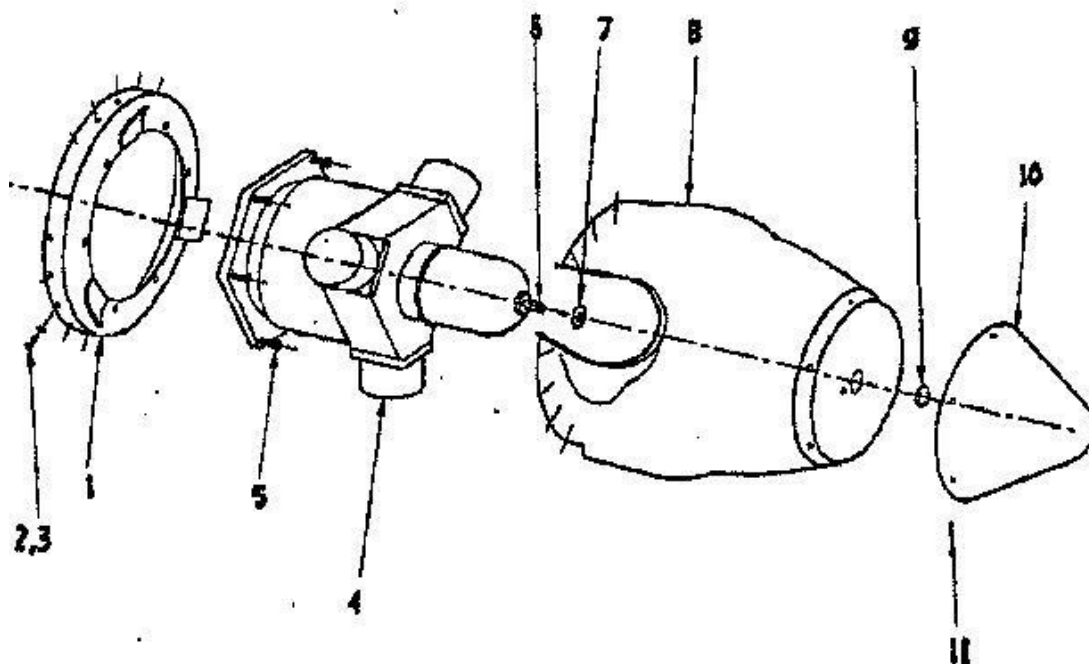

Figure 1. Bulkhead and spinner installation
Numbers in square parentheses [] refer to the identifying numbers in Figure 1, sheet 4.
d. If the airplane is equipped with a propeller deice system, disconnect electrical leads [not shown in Fig 1].
c. Lubricate and install PRP 909-6 O-ring [not shown in Fig. 1] in propeller shaft hole.
f. Install the TCB43933(see kit list for dash number) spinner assy [8] by first aligning the bulkhead [1] screw holes up and checking that the hole in the forward face of the spinner seats on the prop shaft flange. Use up to eight A169-7 spacers [7] to shim the gap between the spinner and the flange. Assemble check nut [9] to prop shaft, torque per Table 1, reinstall adjacent bolt [not shown in Fig.1] and safety using MS20995C41 safety wire through bolt. Attach the spinner [8] to the bulkhead [1] using fifteen AN526C1032R10 screws [2] and NW10 nylon washers [3], and torque per Table 1.